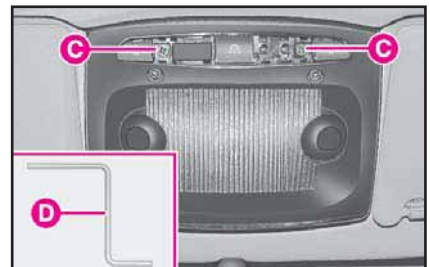

fig. 191
1) Take the Allen screw wrench **D** (fig. 191) out of the tool kit and use it to actuate the sunroof in an emergency.
3) Take out screws **C** (fig. 191) and remove the ceiling light by releasing it from the front clamps.